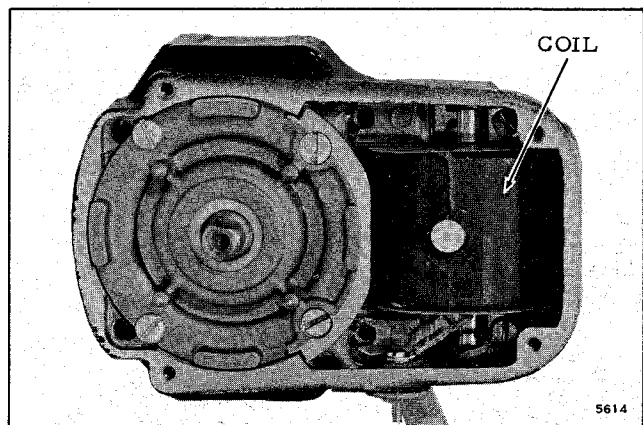

Figure 4-19. Correct Coil Position
b. Install coil with insulators in housing and secure with retainer springs and screws. Coil must be positioned so that core laminations butt against field laminations. See Figure 4-19. Connect primary leads to ground screw and to insulated screw terminal.